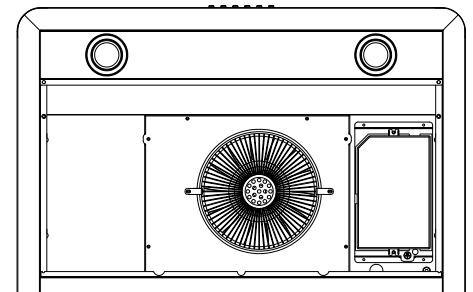

Figure 8
- **WARNING: ALL CONNECTORS MUST BE ENCLOSED IN THE PCB BOX (see figure 8).**